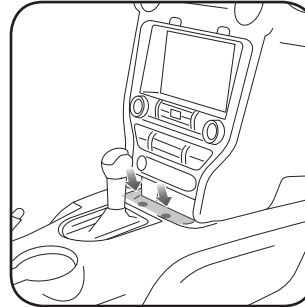

Fig. 1.2
4. Remove the tray cover in front of shifter and remove the two (2) 7mm screws. (Fig.1.2)